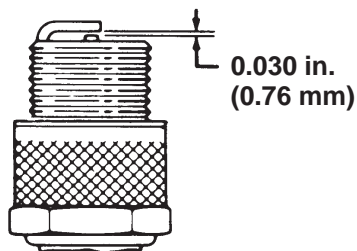

Figure 48
- Set the air gap between the center and side of the electrodes at 0.030 in. (0.76 mm) (Fig. 48) Install the correctly gapped spark plug w/gasket seal, and tighten the plug to 200 in.-lb. (23 N·m). If a torque wrench is not used, tighten the plug firmly.